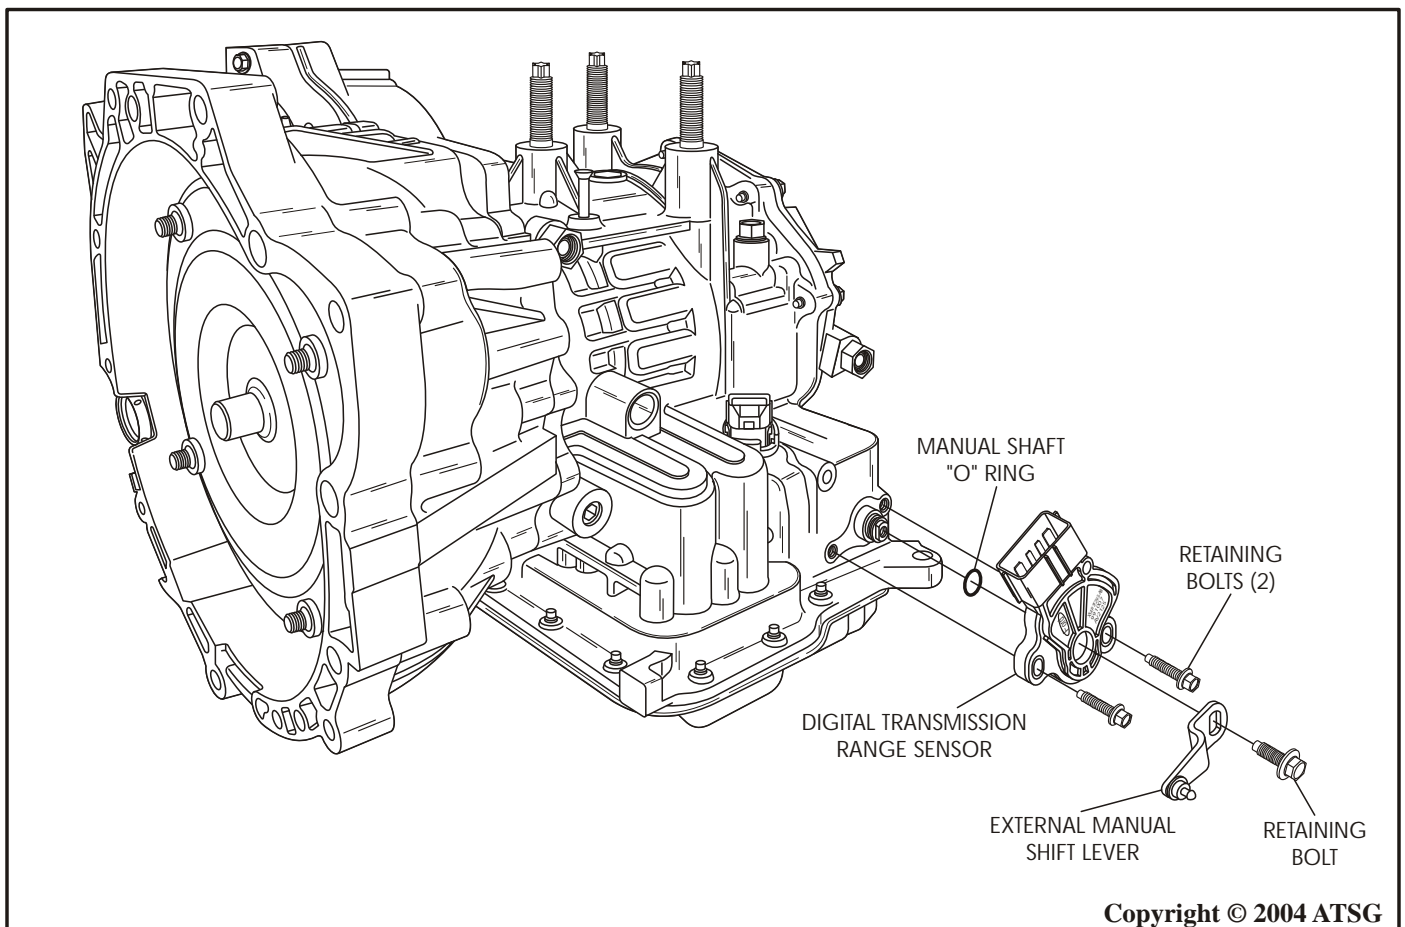

Figure 15
1. Remove the external shift lever retaining bolt and external shift lever, as shown in Figure 15.
2. Remove the 2 transaxle range sensor retaining bolts, as shown in Figure 15, and remove the range sensor